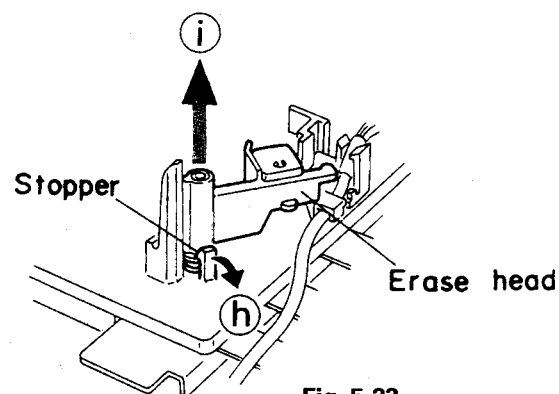

Fig. 5-23
[Caution] In case the driver unit elevator is not at the above position, set the elevator to the position as shown in Fig. 5-22a by manually turning the pulley gear as shown in Fig. 5-23.
13. Manually turn the motor pulley in the clockwise direction until the lifter unit stopper is lowered from the section (F) of CD tray assembly (See Fig. 5-23).